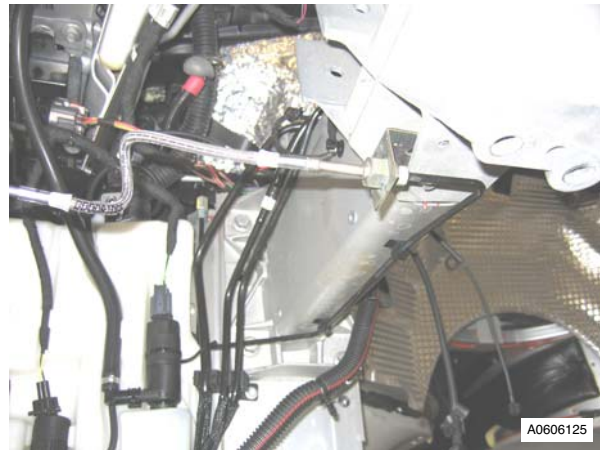

Fig. 1
10. Loosen and disconnect RH/LH front brake tube union from in line connector (see Fig. 1 - RHS shown).